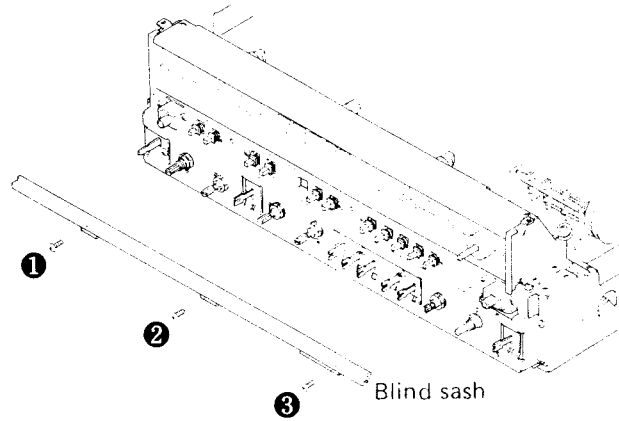

Fig. 16 Remove blind sash
Remove the bonnet and front panel as described in "DISASSEMBLY" on page 17. Loosen screws ① - ③ and remove the blind sash as shown in Fig. 16.